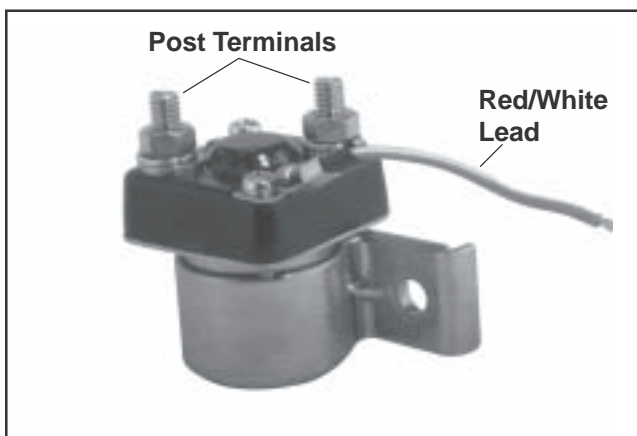

Figure 8-33. Solenoid Details.
5. Inertia Drive Starters: Disconnect the leads from the starter solenoid and remove it from the starter for testing. See Figure 8-33 on page 8.25. <ul style="list-style-type: none"> a. Set an ohmmeter on the Rx1 scale and zero the meter. Connect one ohmmeter lead to the terminal of the red/white lead from the solenoid. Connect the other ohmmeter lead to the solenoid mounting bracket. b. With the ohmmeter still on the Rx1 scale, connect the leads to the two large post terminals. c. Leave the ohmmeter leads connected to the large terminals. Connect a jumper lead from the positive terminal of the battery to the terminal of the red/white solenoid lead. Connect another jumper lead from the negative terminal of the battery to the solenoid mounting bracket. Solenoid Shift Starters: Perform the solenoid tests on page 8.24.	5. a. The resistance of the energizing coil should be at least 3.4 ohms. If the meter reading is less than 3.4 ohms, or an open circuit is indicated (infinity ohms), the solenoid is faulty and must be replaced. b. The meter should indicate an open circuit (infinity ohms, no continuity). c. When the circuit is completed, applying 12 volts to the energizing coil, an audible click should be heard as the solenoid engages, and the ohmmeter should then indicate continuity between the large terminals. If the results are other than indicated, replace the solenoid.